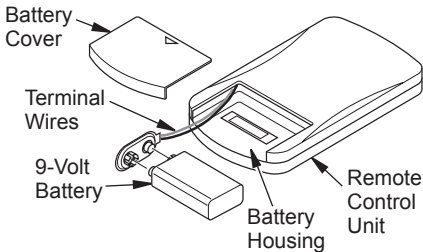

Figure 17 - Installing Battery in Hand-Held Control Unit (HRC100 Series)
2. Attach terminal wires to a 9-volt alkaline battery (not included). Place battery into battery housing (see Figure 17).